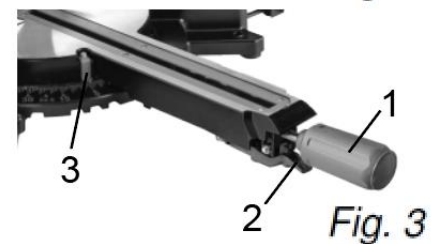

Fig. 3
1. Unlock the table by turning the mitre handle(1) counterclockwise (Fig.3).
2. Move the table while lifting up on the positive stop locking lever(2) to align the indicator(3) to the desired degree measurement.